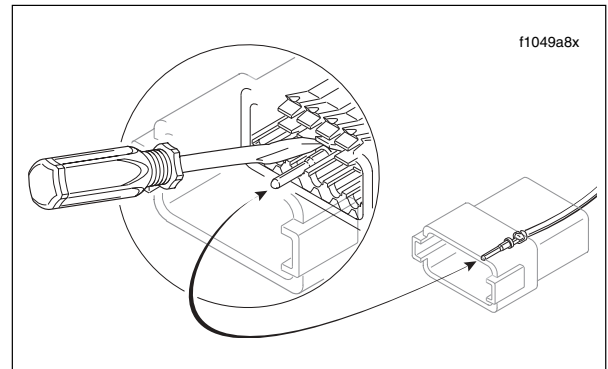

Figure B-2. Depress Terminal Latches/Back Out Pins
2. Gently depress terminal latches inside socket housing and back out sockets through holes in rear wire seal. See Figure B-2.